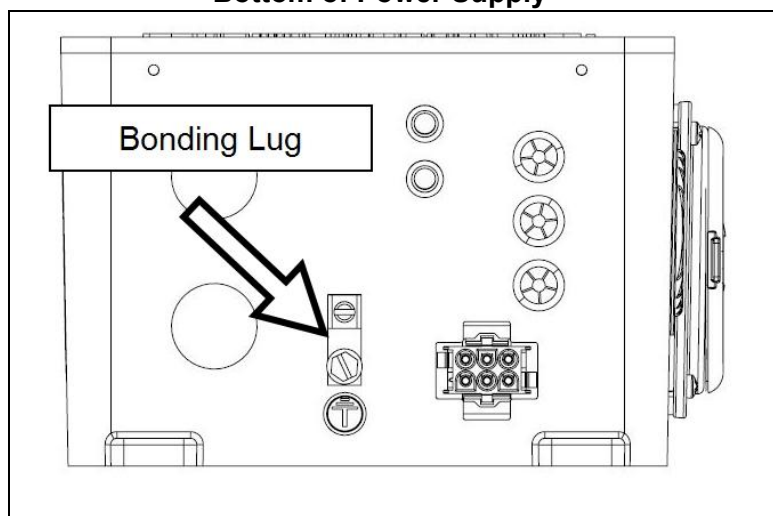

Figure 8
- Use the lug located on the bottom of the power supply with #8 solid bond wire to the pool equipment. See **Figure 8**.